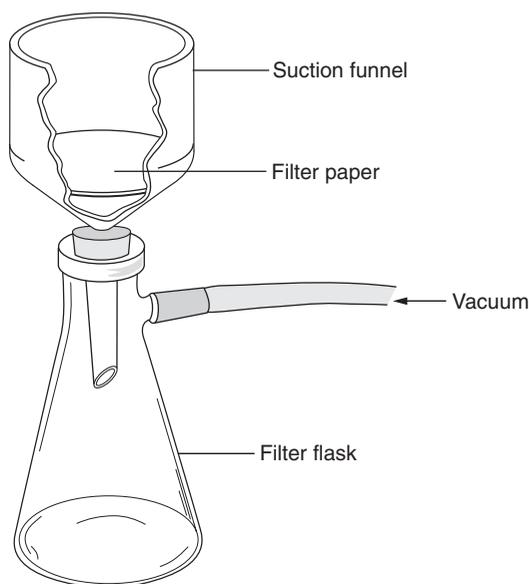

Figure 31.2
- G.** Weigh a piece of filter paper on a centigram balance before inserting it into the funnel. Collect the aspirin by filtering the cold liquid through a Büchner funnel, using suction, as in Figure 31.2. Disconnect the rubber hose from the filter flask, pour about 5 mL of ice-cold deionized water over the crystals, and suck down the wash water. Repeat the washing step with a second 5-mL rinse of ice-cold water. Draw air through the funnel for a few minutes to help dry the crystals, and then transfer the filter paper and crystals to a clean watch glass.
- D. After the mixture has been stirred and mixed completely, filter off the soap on a Büchner funnel, using suction, as illustrated in Figure 31.2. Rinse with two 10-mL portions of ice-cold water, drawing this water through the funnel. Allow your soap to dry by spreading it out on a paper towel.